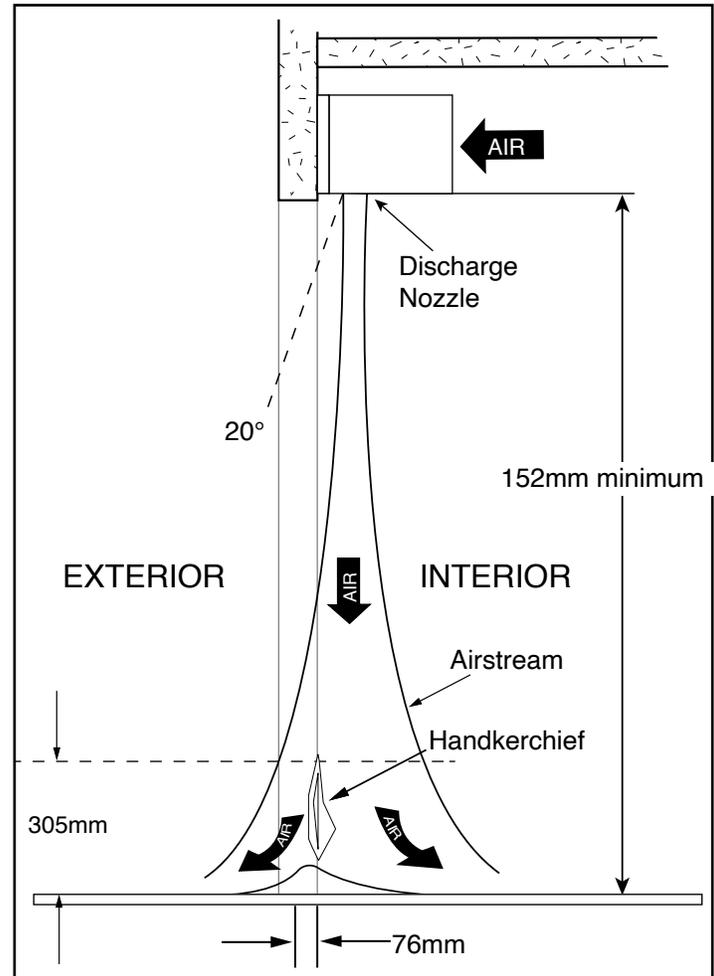

Figure 13 - Air Stream Adjustment
2. Find the air stream split location. Hold a handkerchief by its corners, approximately 305mm above the floor. Gently move the handkerchief back and forth in the doorway. Make sure the air is being directed to both the inside and the outside. **See Figure 13.** The split location is indicated where the handkerchief is vertical with minimal or no fluttering.